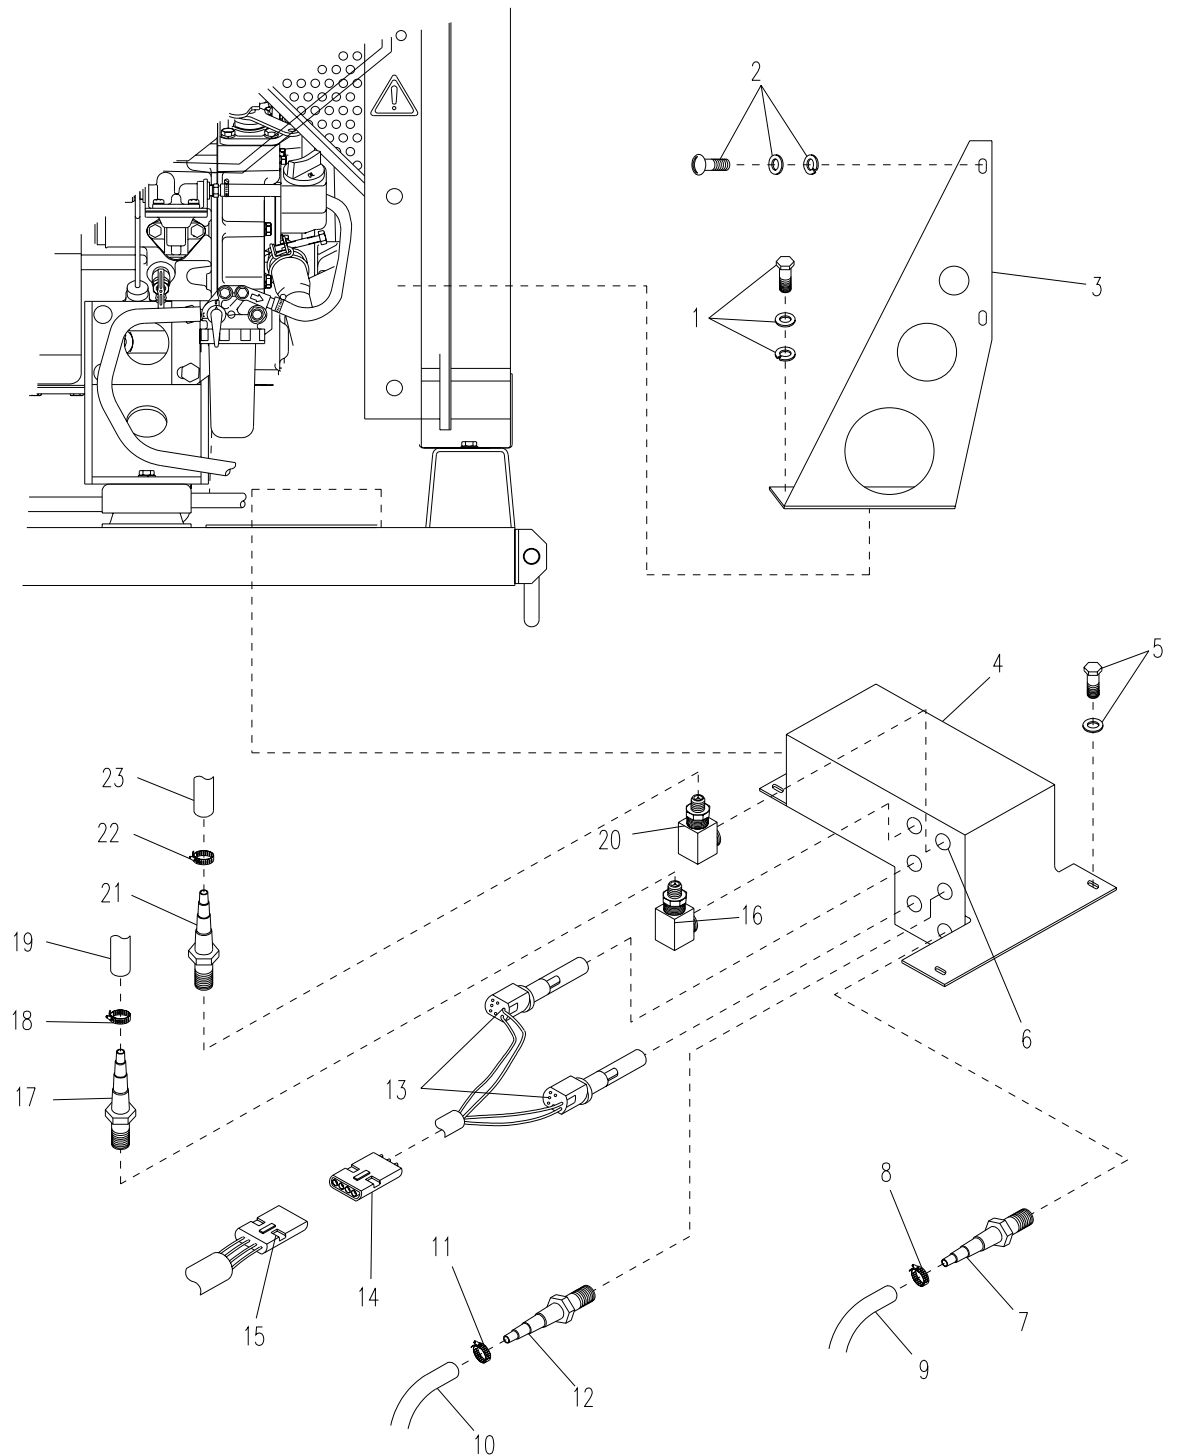

Figure 4-20. Fuel Day Tank Assembly (SICPS)
- a. Remove two bolts and flat and lock washers (1, Figure 4-20) and two screws and flat and lock washers (2), and remove radiator support bracket (3).
- b. Loosen clamp (18) and remove line (19) between fuel pump assembly and fuel day tank assembly from fitting (16) at fuel intake hole (6).
- a. Remove two bolts and flat and lock washers (1, Figure 4-20), and two screws and flat and lock washers (2), and remove radiator support bracket (3).
- b. Disconnect connector J7 (14) from connector P7 (15).
- c. Remove fuel lines from fuel day tank (4). Proceed as follows:
- (1) Loosen clamp (18) and remove transfer pump line (19) from fitting (17).
- (2) Loosen clamp (8) and remove fuel filter line (9) from fitting (12).
- (3) Loosen clamp (11) and remove overflow line (10) from fitting (12).
- (4) Loosen clamp (22) and remove vehicle return line (23) from fitting (21).
- d. Remove four bolts and washers (5).
- e. Lift fuel day tank (4) so that sump in bottom of fuel day tank clears frame assembly and remove fuel day tank (4).
- f. Remove two fittings (7 and 12 and two 90° fittings (16 and 20) from fuel day tank (4).